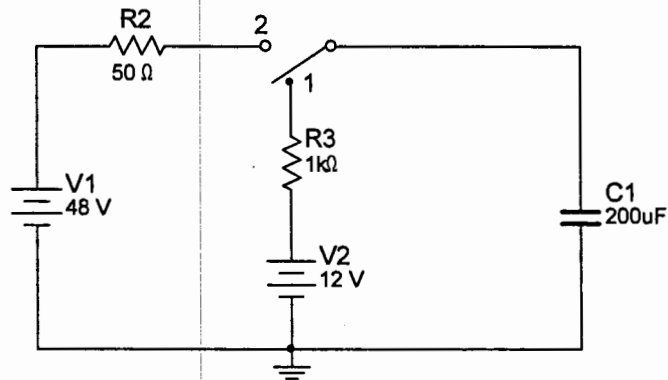

Fig. 3
- (a) In the circuit of Fig. 3, the switch is moved from position 1 to position 2 at  $t = 0$ . Find  $v_c(t)$  for  $t > 0$ . Assume steady state conditions exist at  $t = 0^-$ .